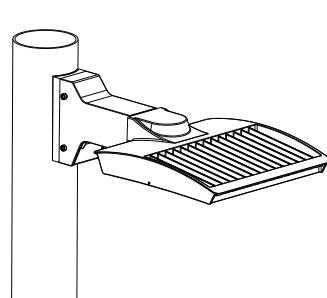

FIG. 5
4. Inspect installation to ensure the fixture is secure (see **FIG 5**).